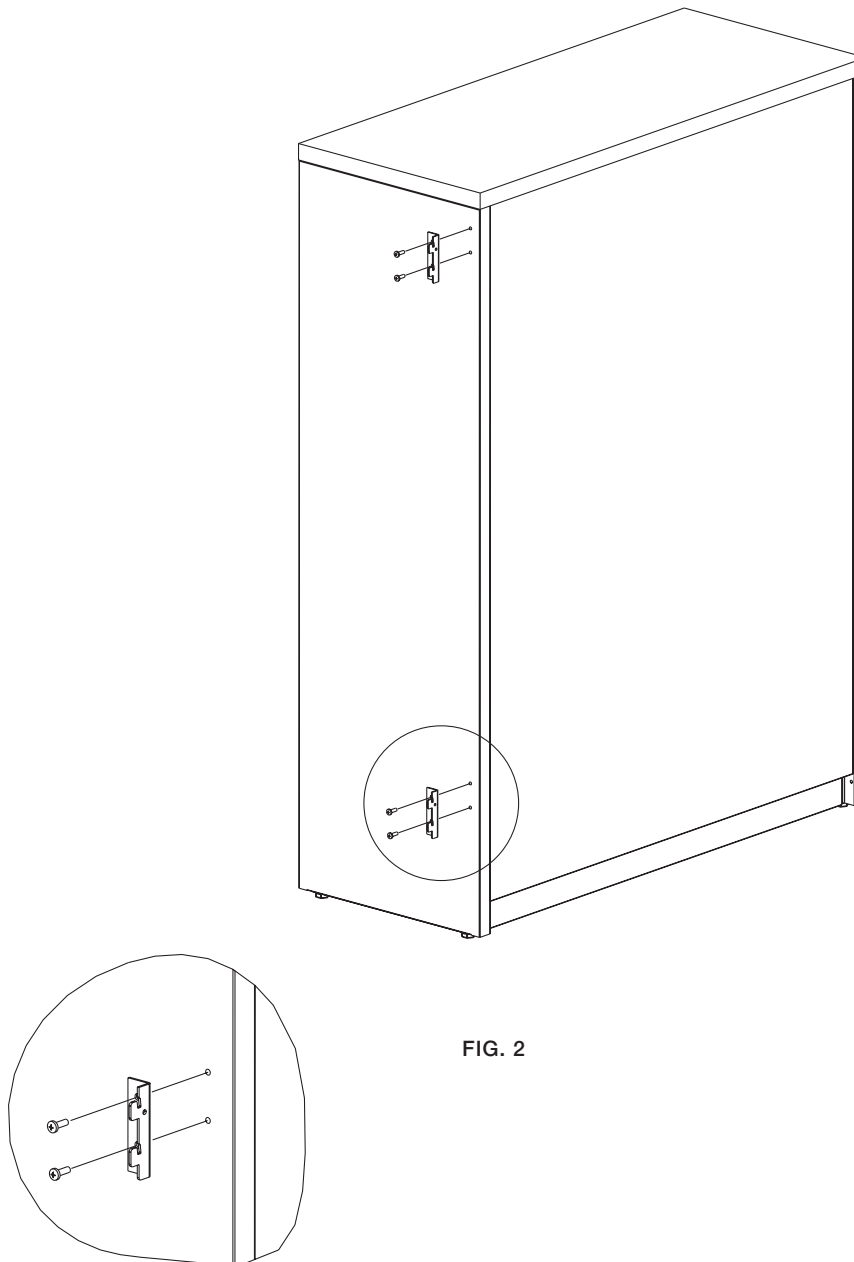

FIG. 2
With brackets in position, mark holes then drill 1/8" pilot holes. Attach brackets using (2) #10 x 5/8" screws. (FIG. 2)